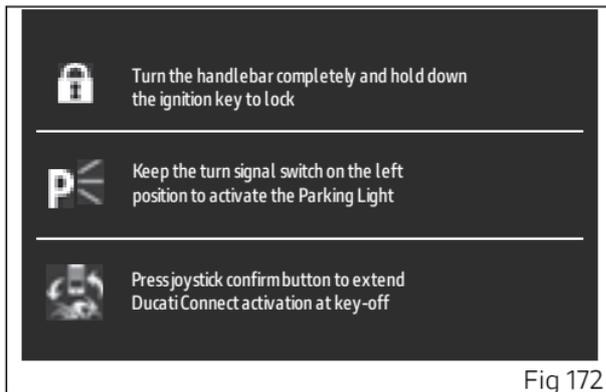

Fig 172
If you want to engage the steering lock, after performing key-off by shortly pressing the button, when the screen (Fig 172) is displayed, fully turn the handlebar and press and hold the button (1) again for 2-3 seconds.
If you want to switch on the parking light while the screen (Fig 172) is displayed, press and hold button (2) on the left turn indicator.
If you want to extend the duration of the Ducati Connect connection, press the joystick in ENTER position (3) while the screen (Fig 172) is displayed. After this operation, an activation confirmation message will be displayed on the instrument panel. The connection remains active for other 20 minutes.